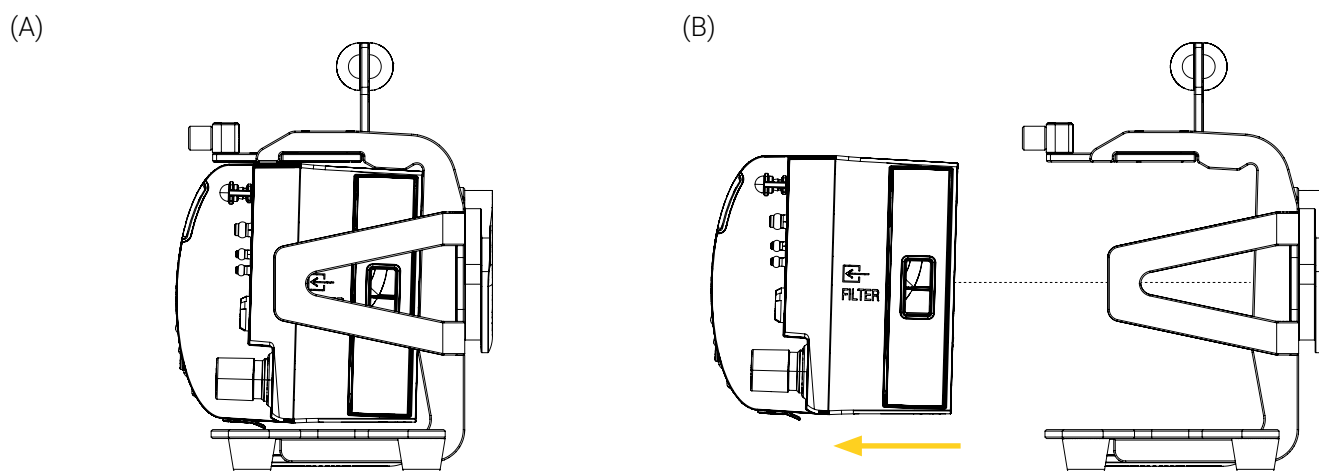

Figure 11: Removing the medical device from the BP380 – GR
3. Pull the medical device out of the mounting bracket horizontally (Figure 11).